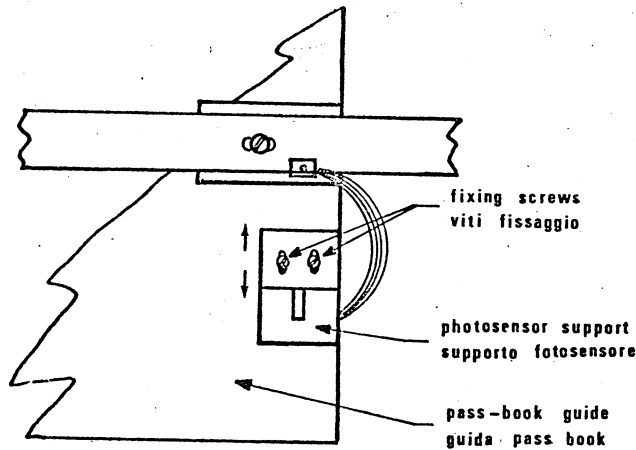

Fig. 8-30
- . If necessary, move the photosensor support upward or downward (fig. 8.30)